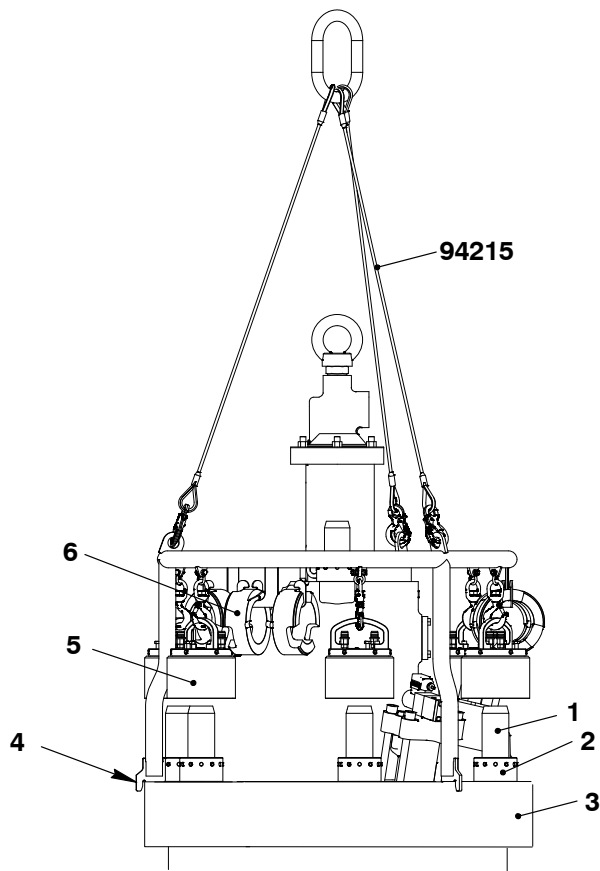
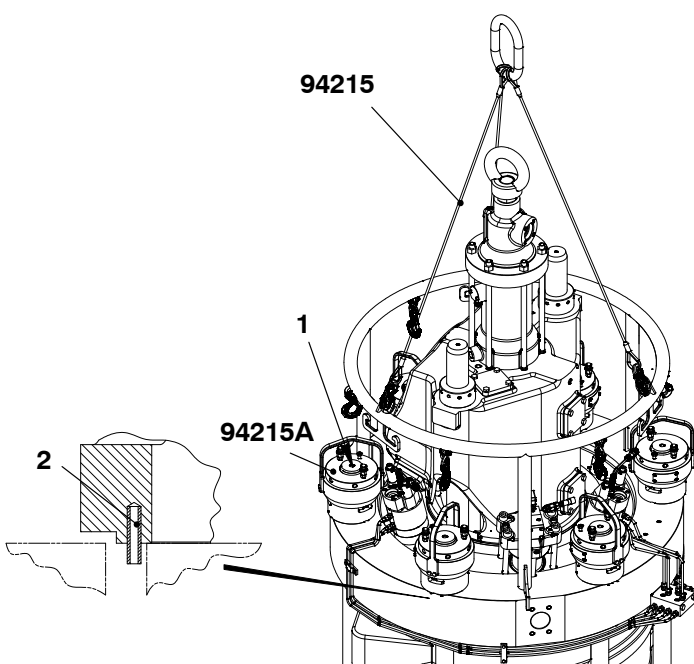

Fig.2
Fig.3
- 1) Operate the crane to put the lifting tool (94215, Fig.2) and the six pre tensioning jacks (94215A) above the cylinder cover (3).
- 2) Lower the lifting tool (94215) slowly until the three brackets (4) are on the cylinder cover (3).
- 3) Put the bottom parts of the pre tensioner (6) on the elastic studs (1). Make sure that the pin (2, Fig.3) is out of the cylinder cover.
- 4) Do the same procedure for each bottom part of the pre tensioner (6, Fig.2).
- 5) Attach the top parts of the pre tensioner (5) to the elastic studs (1).
- 6) Connect the pre tensioning jacks (94215A, Fig.3) to the hydraulic pump, refer to 9403 2.
- 7) Remove the round nuts (2) from the elastic studs, refer to 9403 4.
- 1) Clean the threads of the elastic studs (1, Fig. 3) and apply oil for lubrication.
- 2) Attach the pre-tensioning jacks (94215A) to the elastic studs (1), refer to paragraph 2.1, steps 1 to 7.
- 3) Apply tension the elastic studs (1), refer to 9403 4.